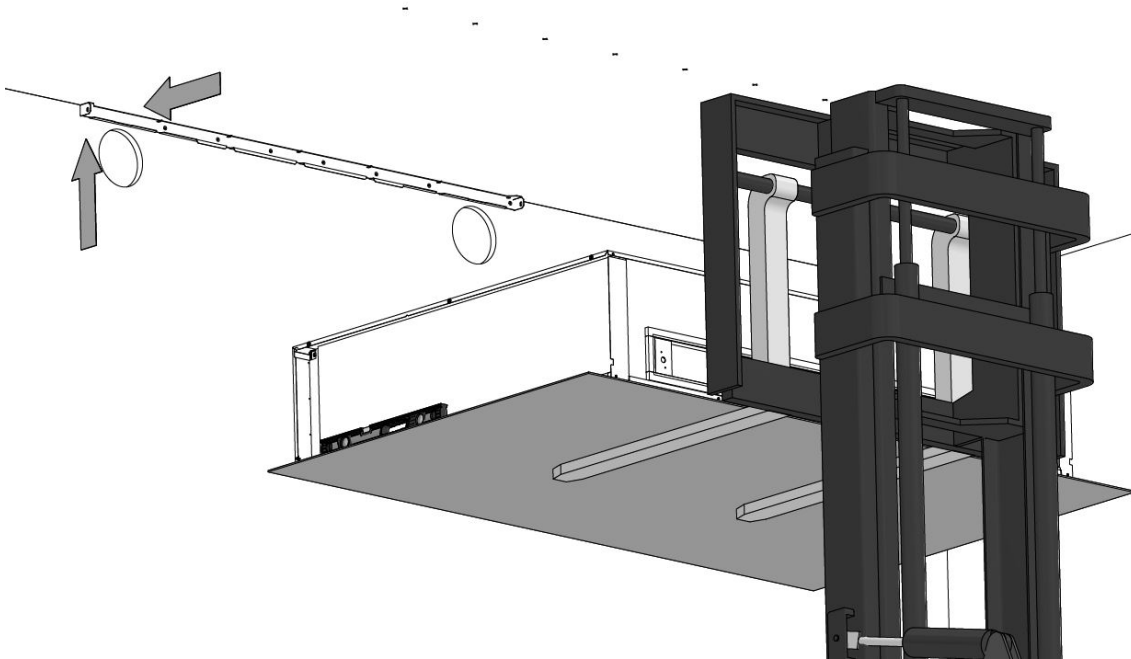

Figure 18: Lift the unit up and onto the bracket
1. Place a protective underlay between the lift and the unit to prevent scratches, see Figure 18 below.